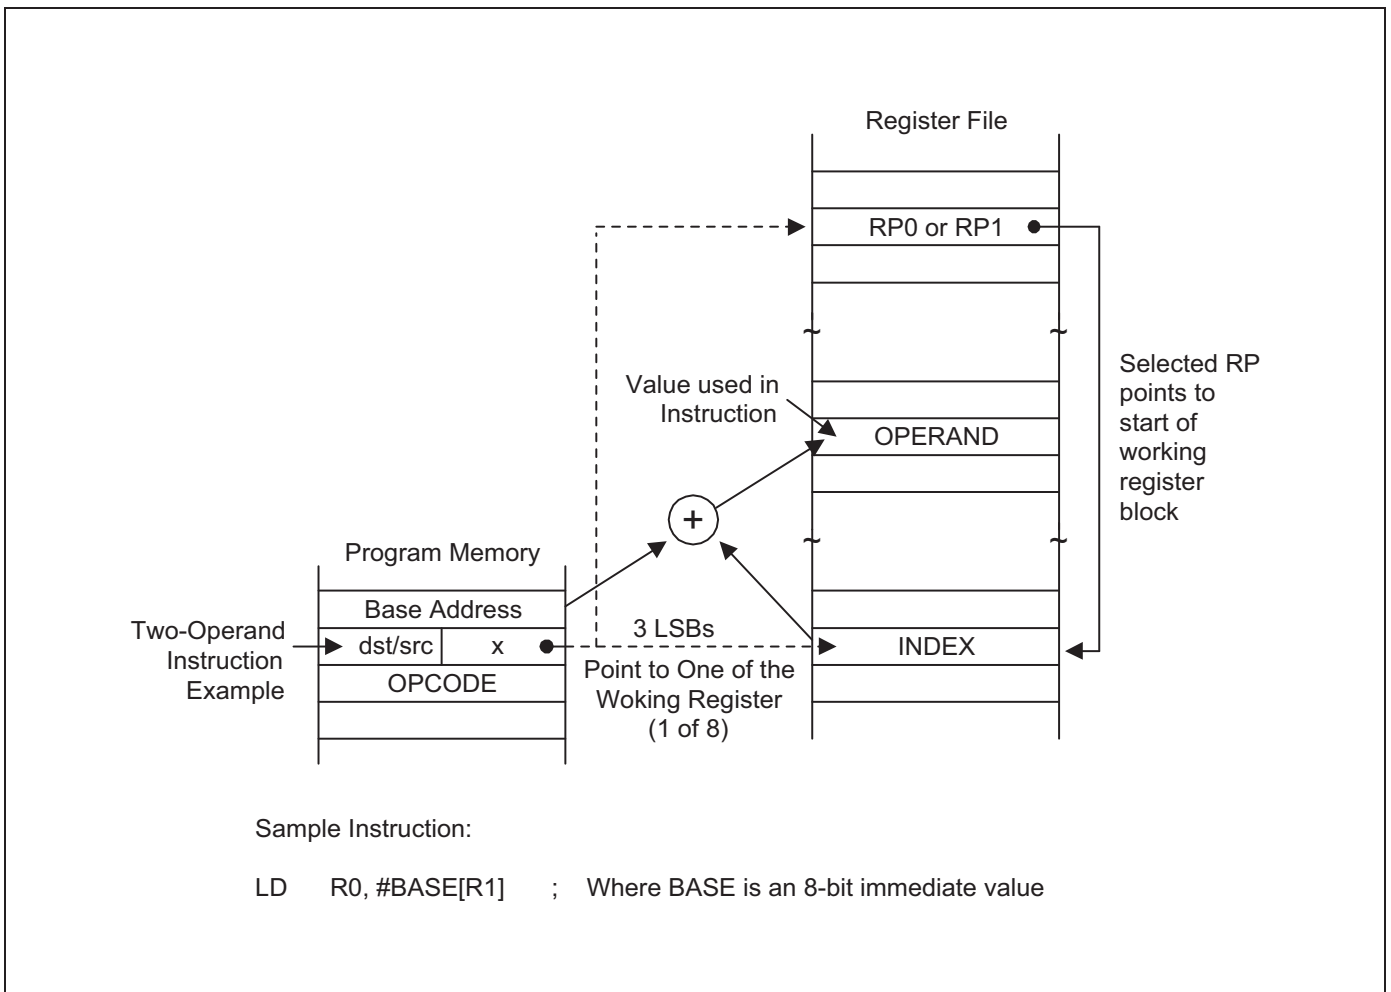

Figure 3-7 Indexed Addressing to Register File
3.7 INDEXED (X) ADDRESSING MODE
Indexed (X) addressing mode adds an offset value to base address while executing an instruction in order to calculate the effective operand address (see Figure 3-7). You can use Indexed addressing mode to access locations in the internal register file or external memory. Note that you cannot access locations C0H–FFH in set 1 using Indexed addressing mode.